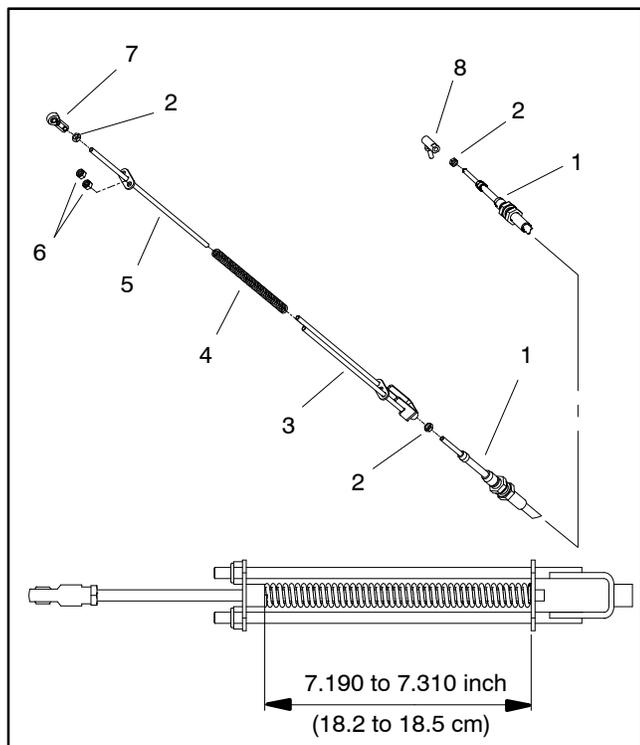

Figure 9
3. Disassemble traction control cable using Figure 9 as a guide.
1. Assemble traction control cable using Figure 9 as a guide. Tighten lock nuts (item 6) so that compression spring (item 4) has a length from 7.190 to 7.310 inch (18.2 to 18.5 cm).